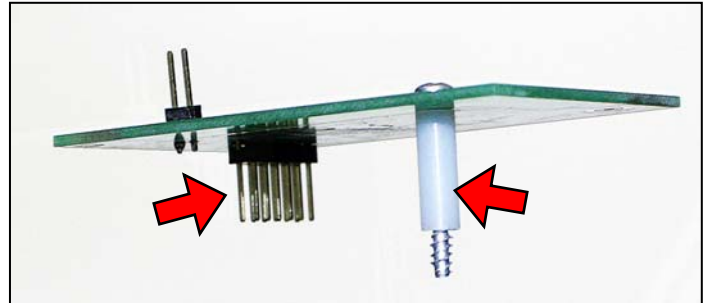

Fig. 4: "Header Plug" (left arrow) and "Standoff" (right arrow)\*
4. Slide the **Standoff** (right arrow in Fig. 4) onto the **Screw**. Take note of the **Header Plug** (left arrow in Fig. 4).